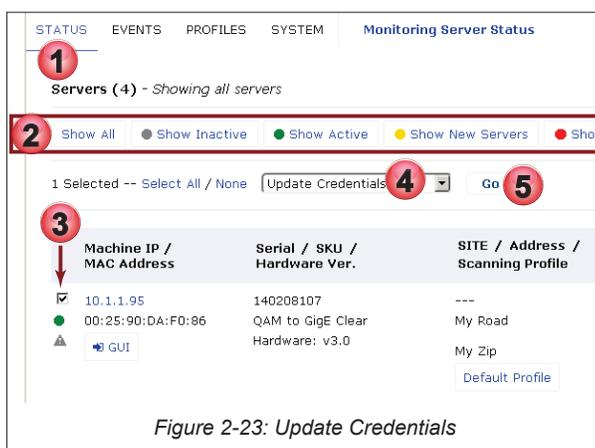

Figure 2-23: Update Credentials
1. Click the **Status Tab** if it is not already selected, Figure 2-23.